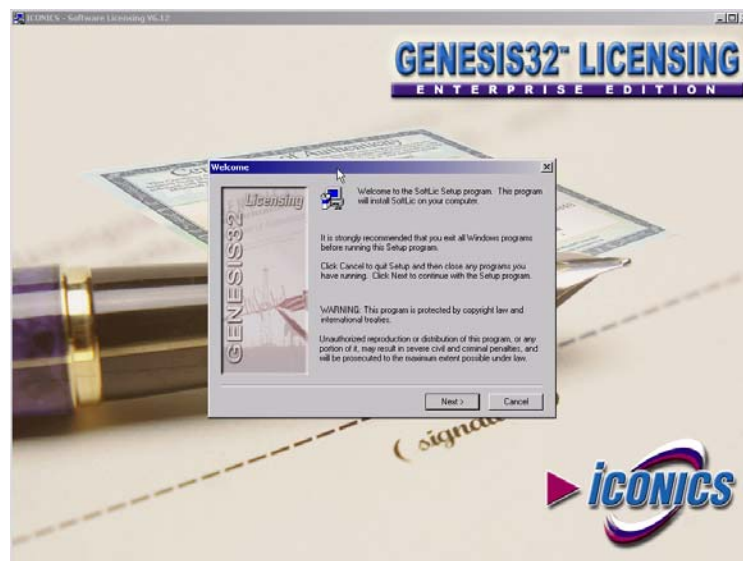

Figure 2.26
2. Click **Next** on the Welcome screen shown in Figure 2.26.